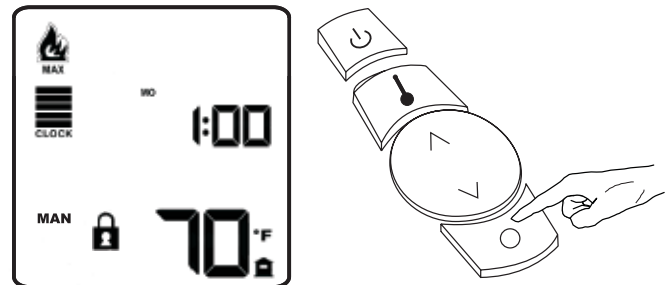

Figure 15
1. To activate the keypad lock, press and hold the Menu button, the lock symbol  will appear on the screen to confirm that the keypad is locked. See Figure 15.